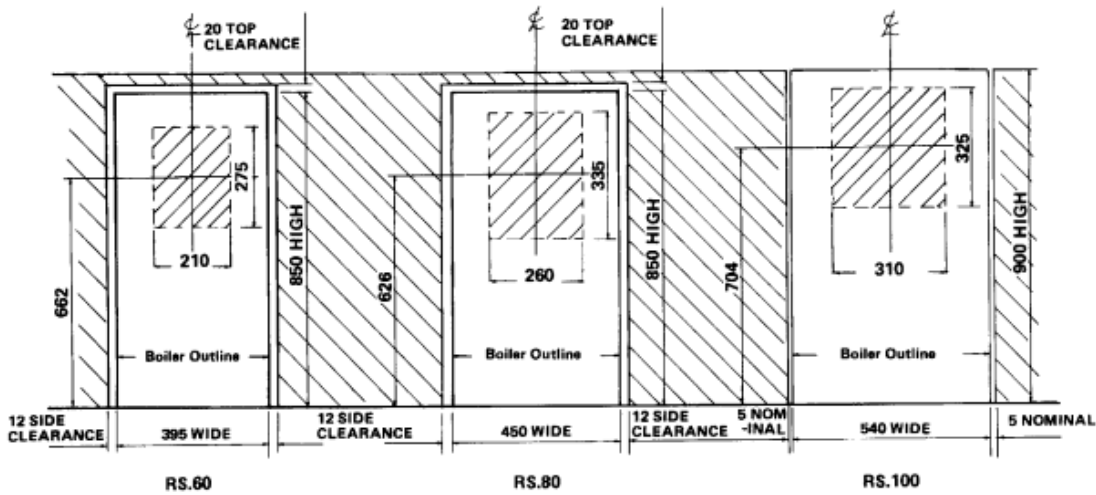

FIG. 6 FLUE HOLE POSITIONS AND BOILER CLEARANCES
A. Decide the most suitable position for the boiler taking into account the information given previously, and paying particular attention to the siting of the balance flue terminal on the outside of the building. See Fig. 6